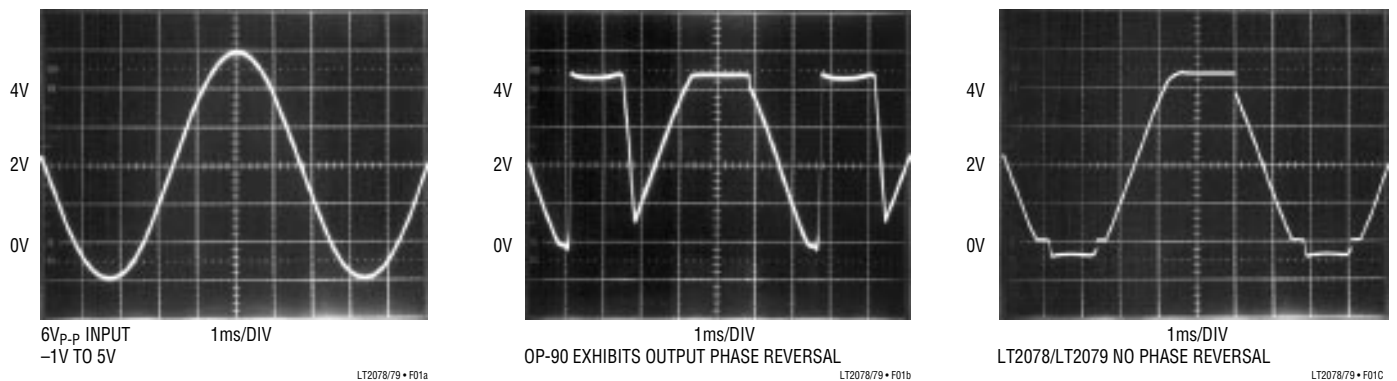

Figure 2. Voltage Follower with Input Exceeding the Negative Common Mode Range ($V_S = 5V, 0V$)
2. When the input is more than 400mV below ground (at 25°C), the input stage saturates and phase reversal occurs at the output. This can cause lockup in servo systems. Due to a unique phase reversal protection circuitry, the LT2078/LT2079 output does not reverse, as illustrated in Figure 2, even when the inputs are at $-1V$.